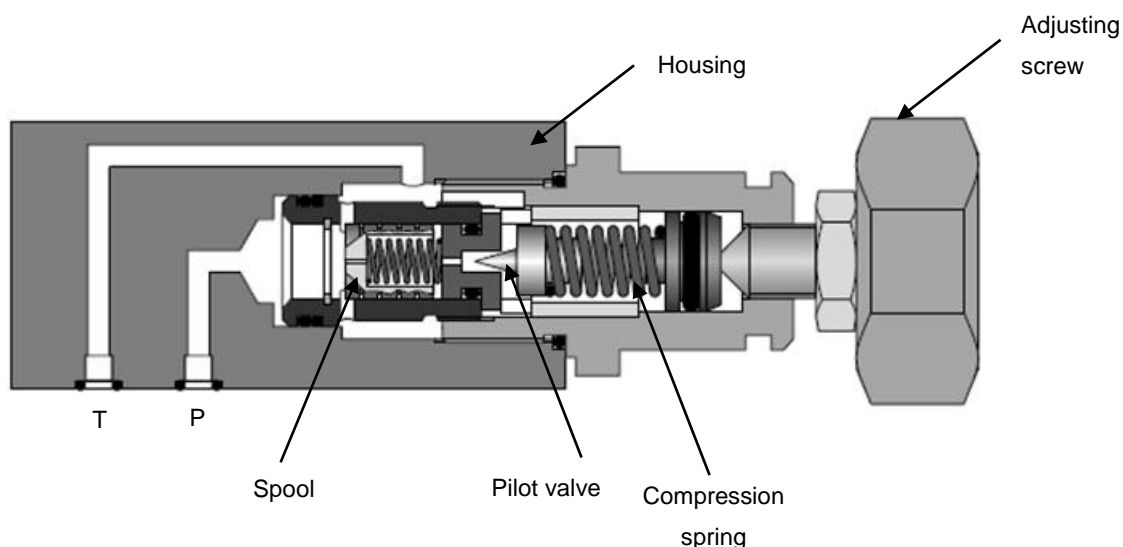

FIG 8.
- B. The pilot valve is held closed by a spring. The tension of the spring can be altered by means of the adjusting screw. Another spring holds the spool on its seat. The spool has a small hole through its centre. When the pressure in the system is below the set pressure of the valve, the oil will flow through the valve to the load. The pressure acts against the bottom of the spool and moves through its centre. See fig 8.